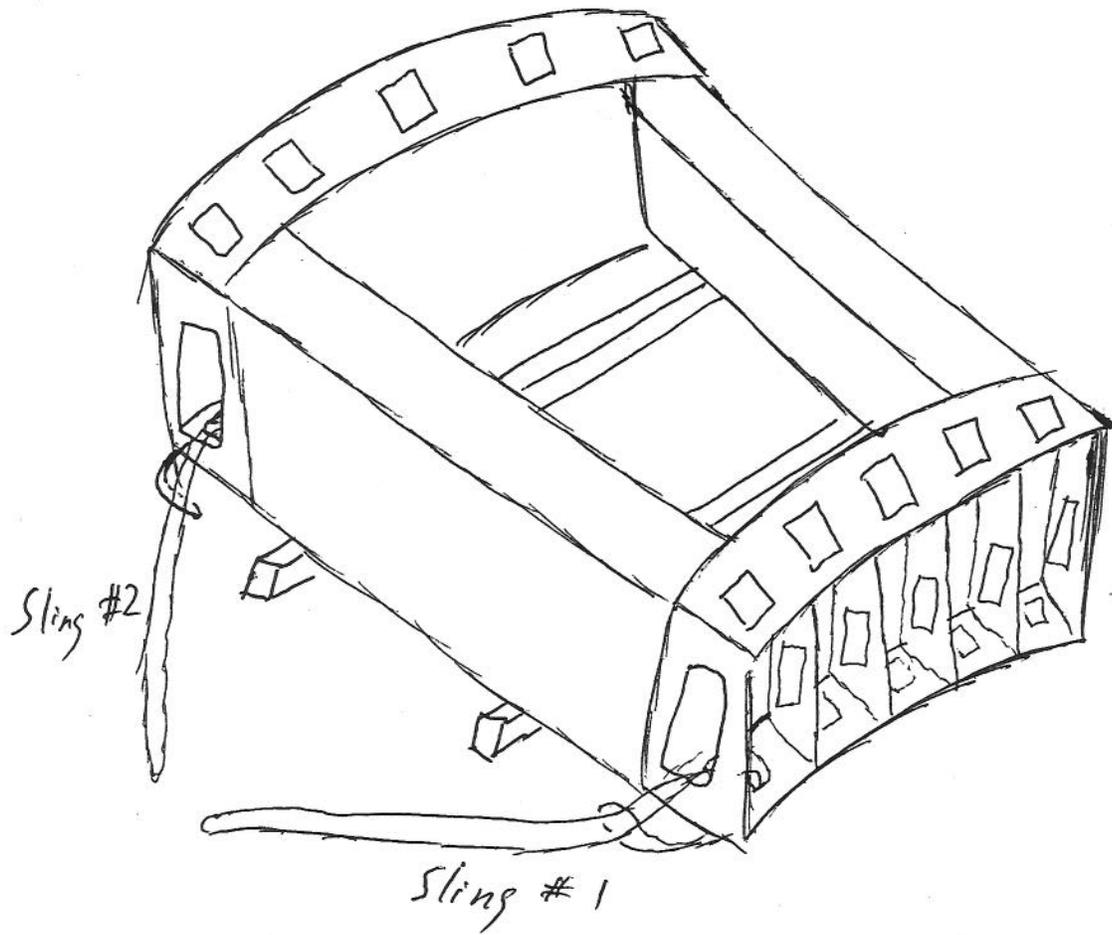

Figure 3. Strap locations for final lift onto west carriage. Use chafe protection on slings.
7.2.2 Attach slings to the keystone openings on the entrance face (see Figure 3).